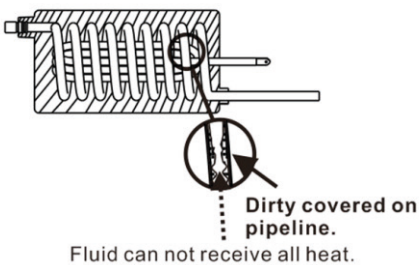

Fig 1
2. Using an incorrect fog fluid. Different fog fluid have different required atomization temperature. If you use the wrong fog fluid result in oil cannot fully atomization caused oil injection.(fig 1)